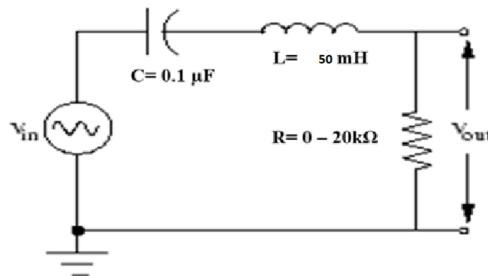

Figure 3.1: Series RLC circuit for resonance frequency
- Using the breadboard and wire leads connect the resistor, capacitor and inductor along with the output of the function generator to construct the circuit shown in Fig. 3.1. Note that the peak to peak voltage is measured across the resistor using the oscilloscope.